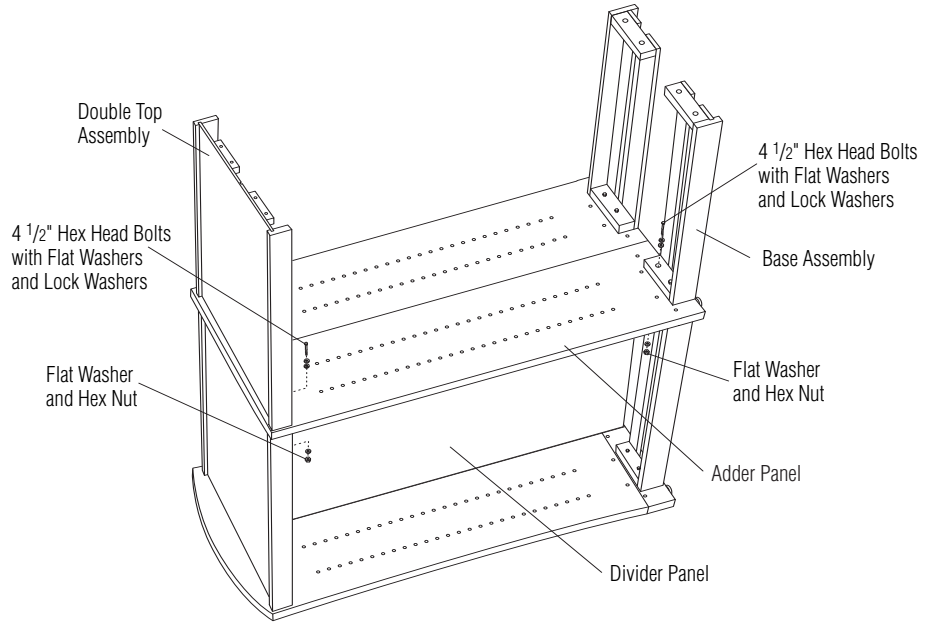

Figure 5
5. Position adder panel (has holes on both sides) by aligning the upper holes with the holes in the previously installed top assembly (Figure 5). Check that the divider panel is still positioned in the center groove. Position the top assembly for the adder unit by aligning the holes with the holes in the adder panel.